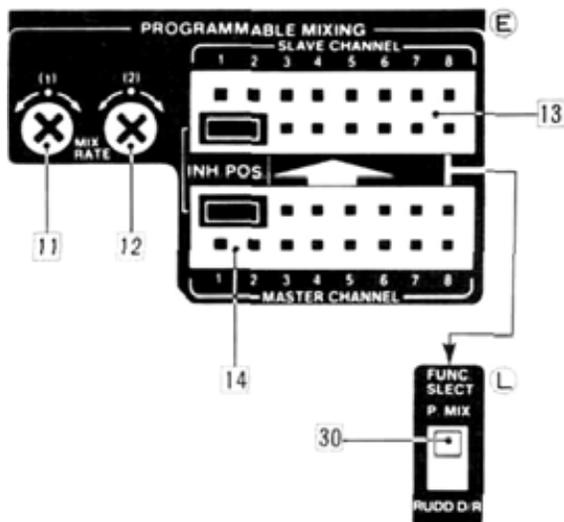

Fig. 57
- When Programmed Mixing is not in use. Connectors 13 and 14 should be placed in the INHIB position as shown in Fig. 57.
- When Function Select Switch 30 is set to P. MIX, programmed mixing can be switched ON and OFF in flight using Control Switch (16). When Switch 30 is set to RUDD D/R, programmed mixing will remain ON if activated using Connectors 13 and 14, and Control Switch (16) can be used to turn the Rudder Dual Rate function ON and OFF.